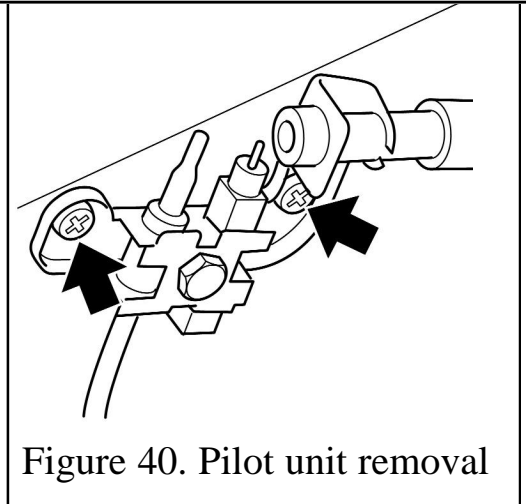

Figure 40. Pilot unit removal
5. Remove the two screws securing the pilot unit (See figure 40).